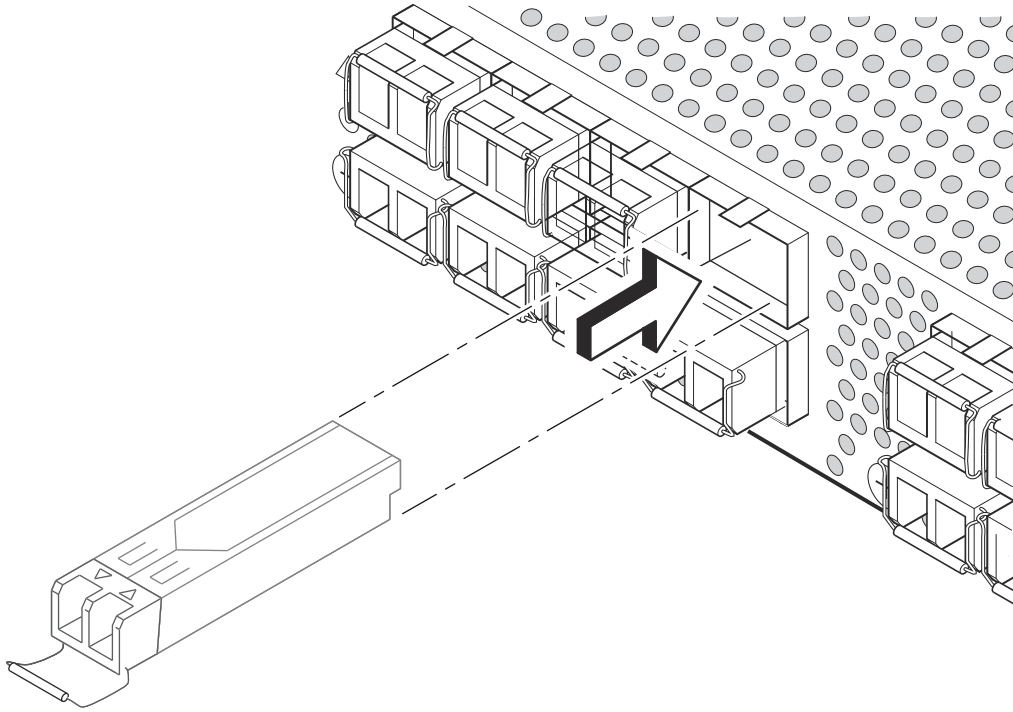

FIGURE 1 Installing an SFP or SFP+ transceiver in the upper row of port slots
2. Making sure that the bail (wire handle) is in the unlocked position, place the SFP or SFP+ transceiver in the correctly oriented position on the port, as shown in Figure 1.